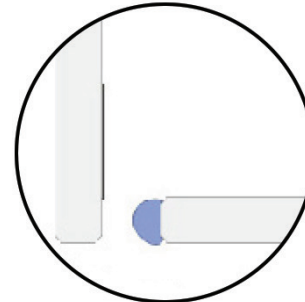

FIG 12.
- Run a continuous bead of silicon down entire length of 10mm face of installed wall to glass panel and across floor channel to the width of the glass to glass panel (**FIG 12**).